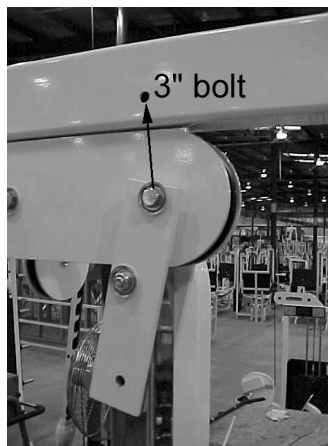

Figure 13. Mount adjustable pulley bracket.
- Mount adjustable pulley brackets. When shipped, the adjustable pulley brackets look like the ones shown in Figure 13. The bolts need to be removed and the bracket needs to be positioned so that the top of the bracket is in the top hole as shown by the arrow in Figure 13. Use a 3" bolt with flat washers, end cap washers and end caps. When you remove the bolts, leave the pulley bolt and pulley out since you will need to thread the cable with the pulley removed.